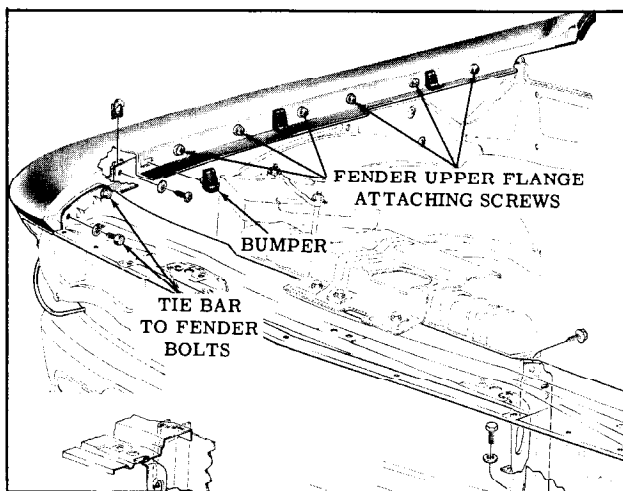

Fig. 11-13 Fender Upper Attachment
12. Remove the 7 fender upper flange attaching screws. (Fig. 11-13)